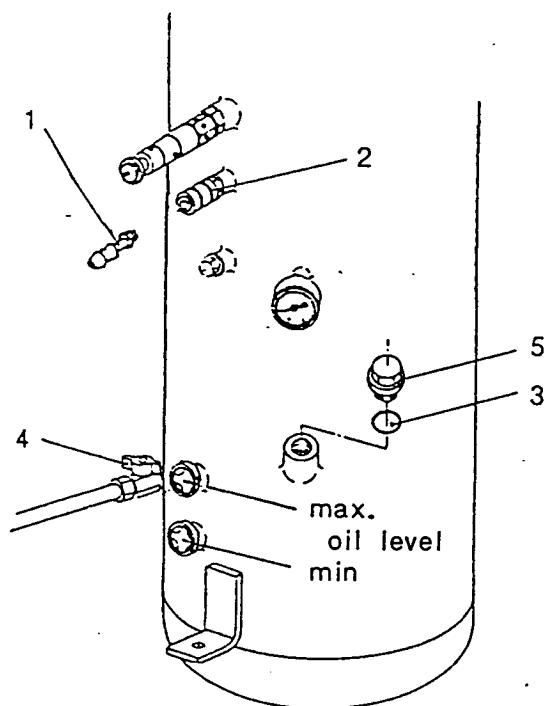
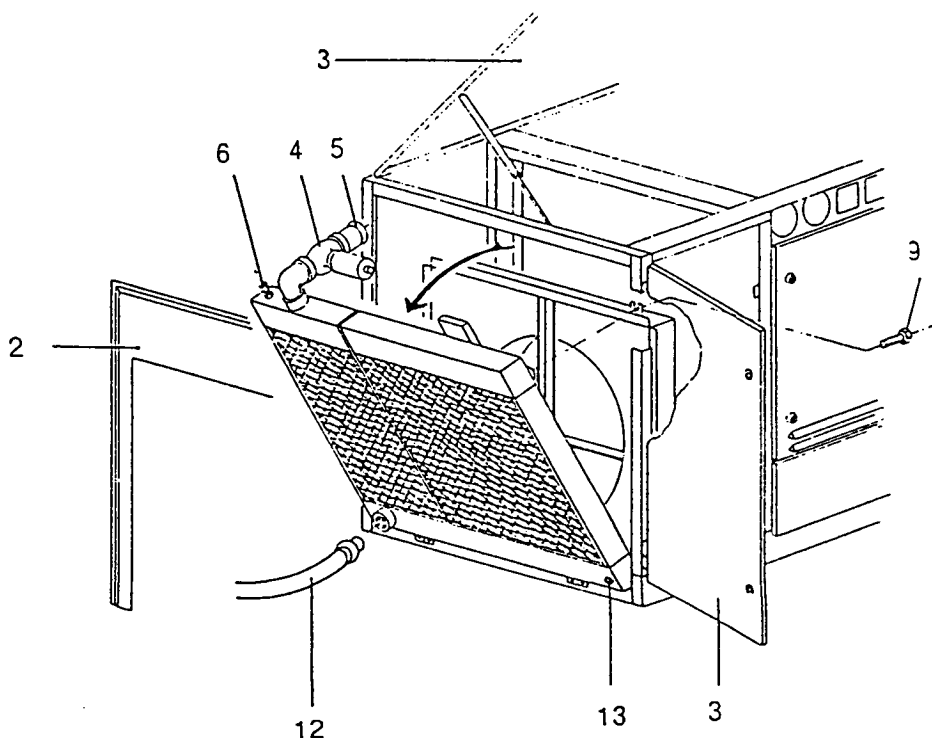

Figure 22
Figure 27
- Close shutoff valve (3).
- Hook hose (2) of other pressure source to socket (1) onto tank and pressure feed (the tank should have a pressure of approx. 30 psig).
- Slowly open drain valve (4, Figure 22) (the pressure remaining in the tank will cause the oil to flow).
- Close drain valve (4, Figure 22) and cooler drain plug (13, Figure 27).
- Open shutoff valve (3).
- After discharging the tank, slowly open the cooler drain plug (13, Figure 27) (the oil will drain without pressure).
- Open shutoff valve (3) at the tank cover.
- Loosen hex nut (1).
- Retension the V-belt by turning the hex nut (2) until the pin (3) is all the way down.
- Retighten hex nut (1).
- Turn adjusting hex nut (2, Figure 22) downwards.